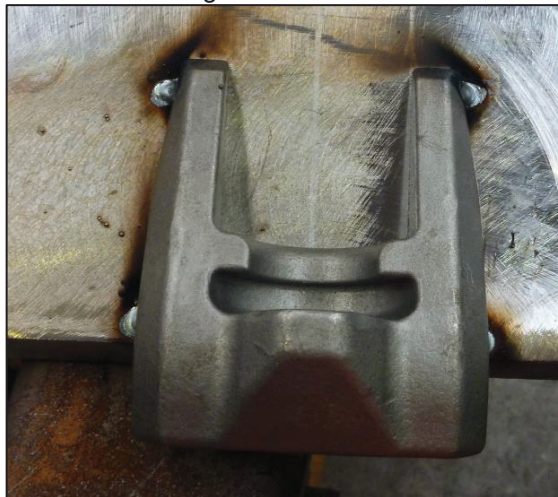

Figure 22 Boss Tack weld locations
2.13.2. To keep the Boss part in position, tack the Boss at the outer side of the legs onto the lip at the appropriate pre-heat conditions. Refer Figure 22.